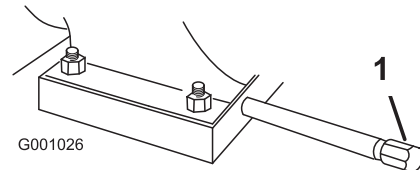

Figure 40
1. Clean the area around the oil-drain cap (Figure 40).